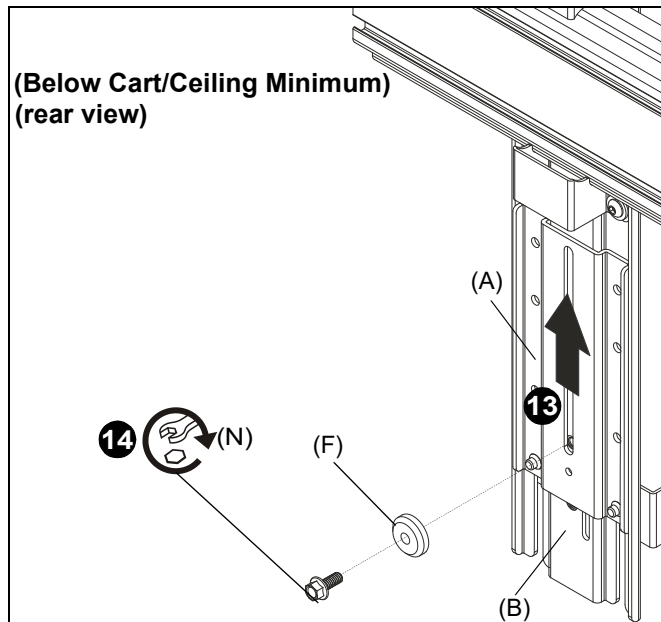

Figure 12
13. (For **minimum extension**) Slide upright bracket behind main bracket. (See Figure 12)
14. (For **minimum extension**) Use 1/4-20 x 5/8" hex head flange bolt (N) and center washer (F) to secure upright bracket (A) to main bracket (B). (See Figure 12)